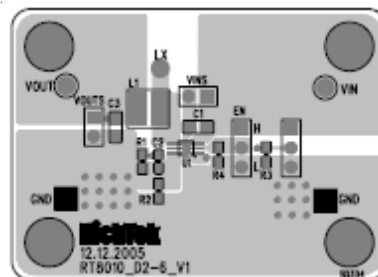
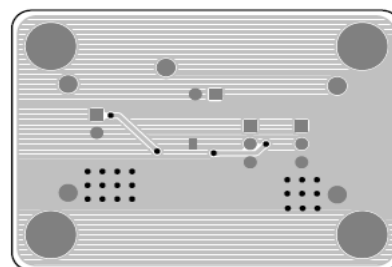

Figure 7. Top Layer
Figure 8. Bottom Layer
- ▶ An example of 2-layer PCB layout is shown in Figure 7 to Figure 8 for reference.